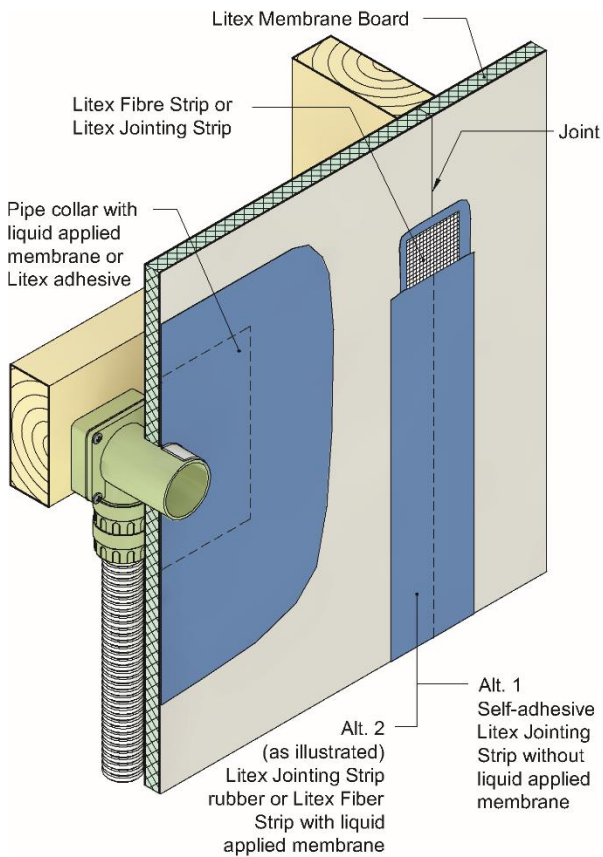

Fig. 2
- Alternative 1: Litex Jointing Strip (self-adhesive) is used to cover wall joints, corners, and screw fixings without liquid applied membrane, see fig. 2.
- Alternative 2: All joints and screw fixings are covered with Litex Jointing Strip or Litex Fiber Strip in combination with a liquid applied membrane listed in table 4. The liquid applied membrane shall cover the reinforcement strip completely (wider than the strip), see fig. 2.
Litex Pipe Collars are bonded to the substrate with Litex adhesive. The collars are then covered with a liquid applied membrane listed in table 4, with a width that is wider than the collar, see fig. 2.